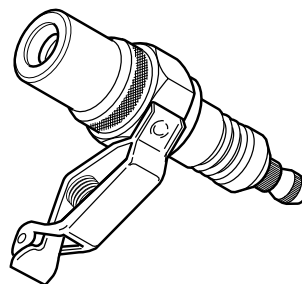

Figure 4-34. Spark Tester
- See Figure 4-34. A SPARK TESTER (Part No. HD-26792) must be used to verify adequate secondary voltage (25,000 volts) at the spark plug.